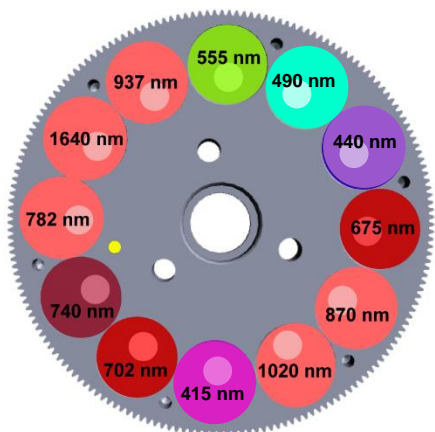

Figure 4: BRDF 12 filters type (CE318-TU12)
- **BRDF 12 filters / CE318-TU12:** It is designed for satellite calibration. It uses 415, 440, 490, 555, 675, 702, 740, 782, 870, 937, 1020, and 1640 nm filters (Fig.4).